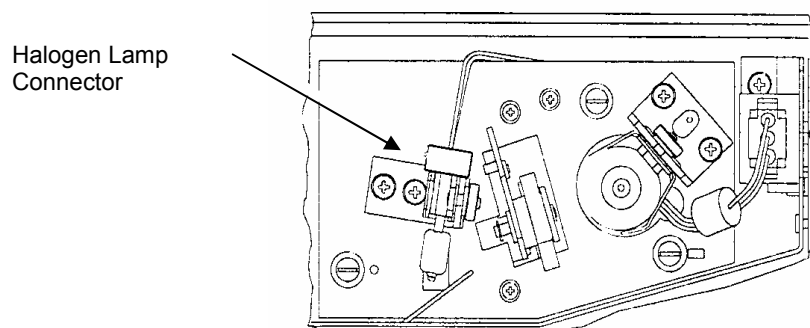

Figure 19 Halogen lamp
3. Disconnect the halogen lamp, as shown in Figure 19.